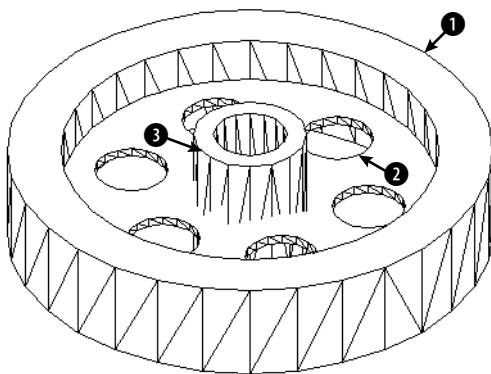

Figure 24-18: The result of three subtraction operations.
7. Use the HIDE command to see the result. This enables you to check the effects of the subtraction operations. Your drawing should look like Figure 24-18.
8.  Choose Union from the Solids Editing toolbar. Select the three solids at ①, ②, and ③ in Figure 24-18 and right-click to end selection.